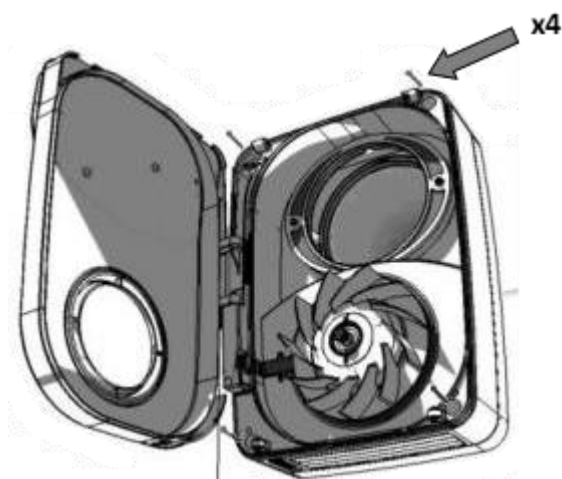

Figure 11
7. Fix the motor chassis to the wall with the four screws (Figure 11) taking care to align the rear hole of the chassis with the hole made in the wall.